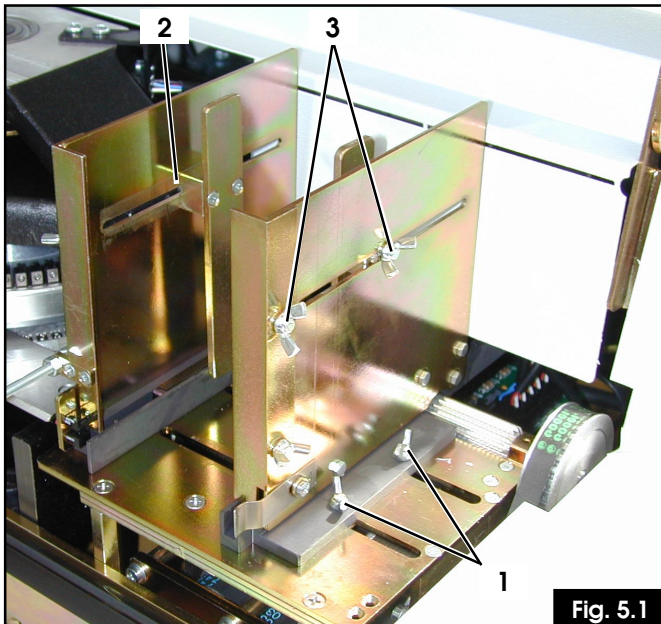

Fig. 5.1
- Loosen the wings screws (UNI 5449-68) (1. fig 5.1) on the right side of the Loader.
Loosen the wings screws (1. fig 5.1) of the rear supports (2), slide them to a distance of about 5 mm from the plate and tighten the screws.
- Loosen the wings screws (3) to adjust the plate thickness, pull the plate towards the outside, set the supports 0.017 inc. higher and tighten the screws.